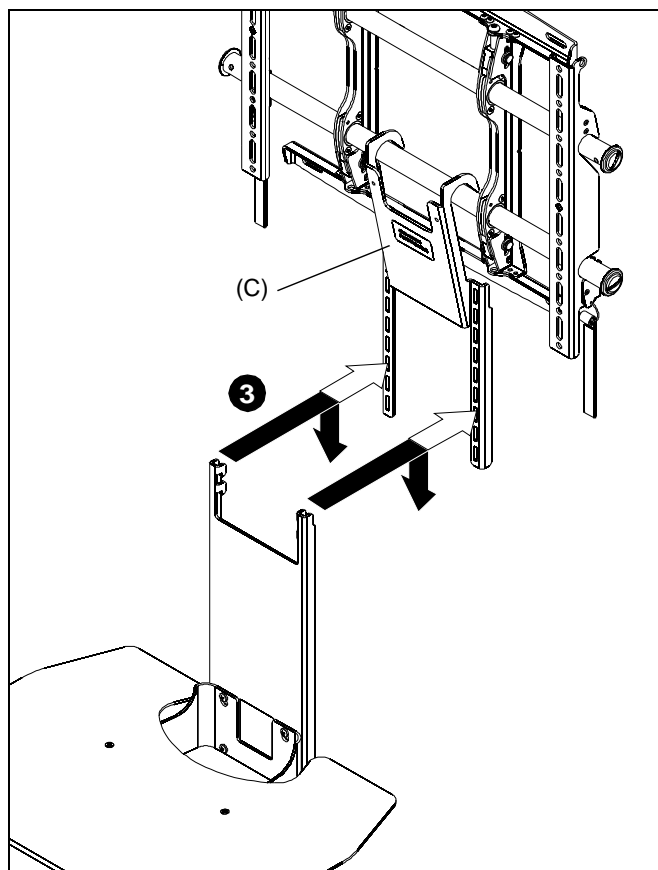

Figure 3
3. Hang shelf with hanger bracket onto the hook bracket (C). (See Figure 3)